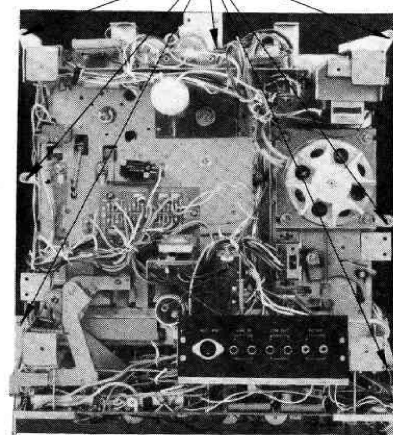

Fig. 22
- 3) Remove seven set-screws from the chassis as shown in Fig. 22.